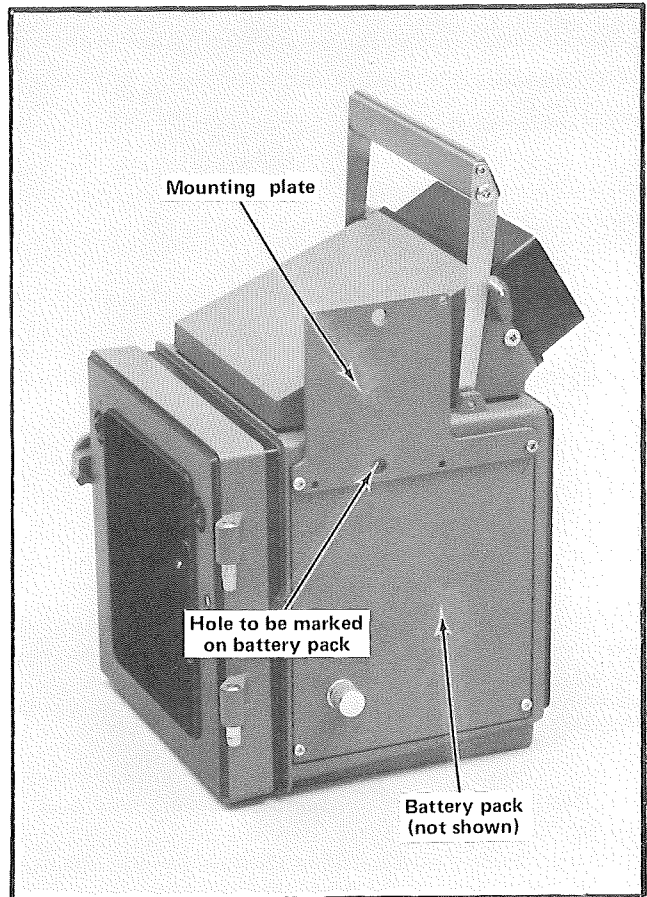

Fig. 2-6. Correct placement of the Writing Speed Enhancer control box mounting plate on the battery pack.
7. Place the Writing Speed Enhancer mounting plate on the battery pack in the manner shown in Fig. 2-6.